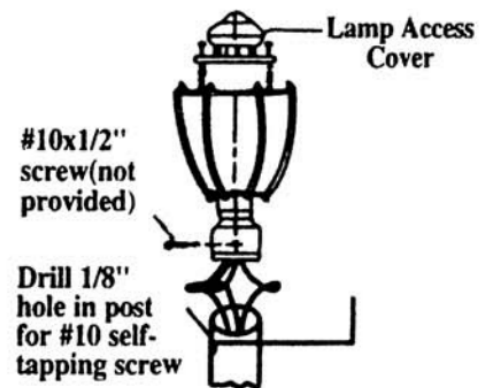

FIG.7
4. Secure fixture to post with # 10x1/2 self-tapping screw.(not provided)(FIG.7)